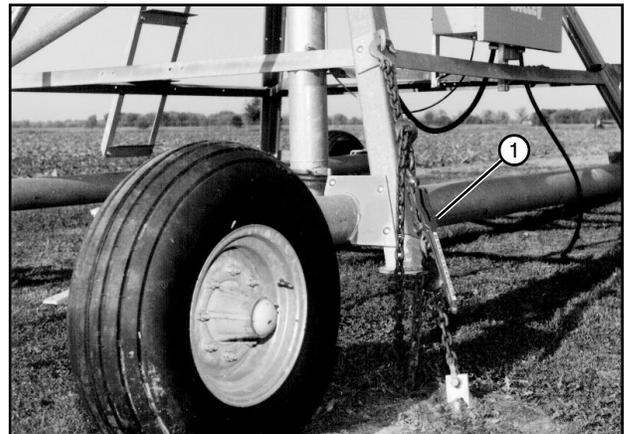

Figure 45-2 1. Load Binder
16. Attach and tighten the load binders at each corner of the pivot. See figure 45-2.